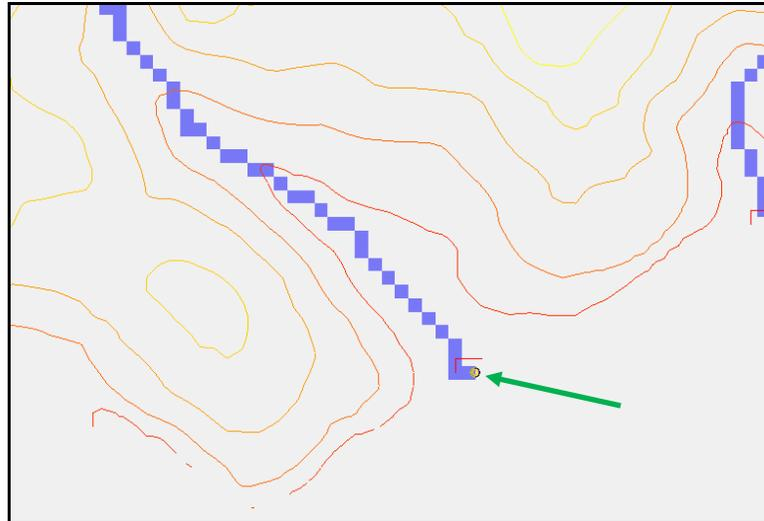

Figure 9 DEM outlet (green arrow)
14. Zoom in to the outlet area of the main stream system (Figure 9).
15. Using the **Create Outlet Point**  tool, create an outlet as shown in Figure 9.